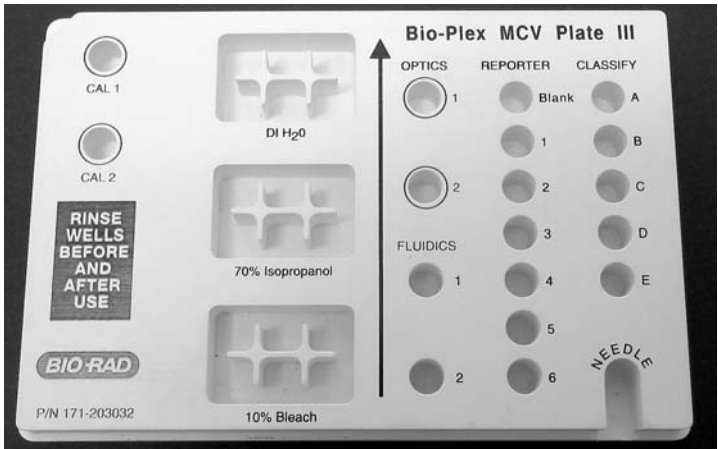

Fig. 2. MCV plate III.
7. Place 5 drops each of bead into the respective wells on the MCV plate III (see Figure 2 below or Figure 1B). Store beads at 4°C as soon as possible after use. Protect the beads from light.